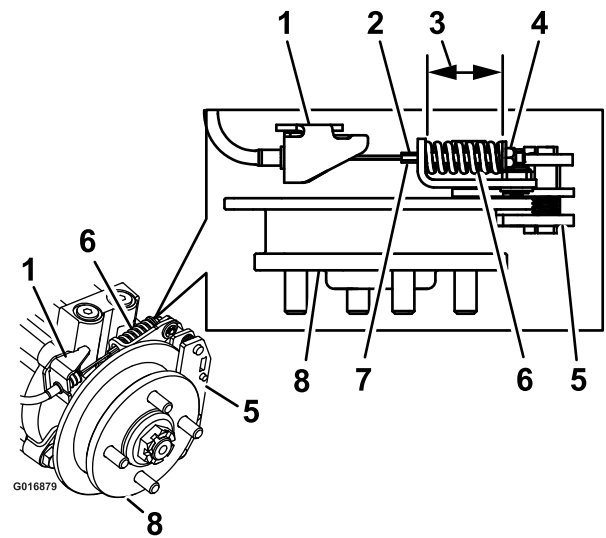

Figure 78
9. Hold the threaded rod end with a tool and adjust the lock nut until the spring length is between 1-1/2 and 1-9/16 inches (3.8 and 4.0 cm) (Figure 78). Do Not allow the cable to turn when the nuts are being loosened.